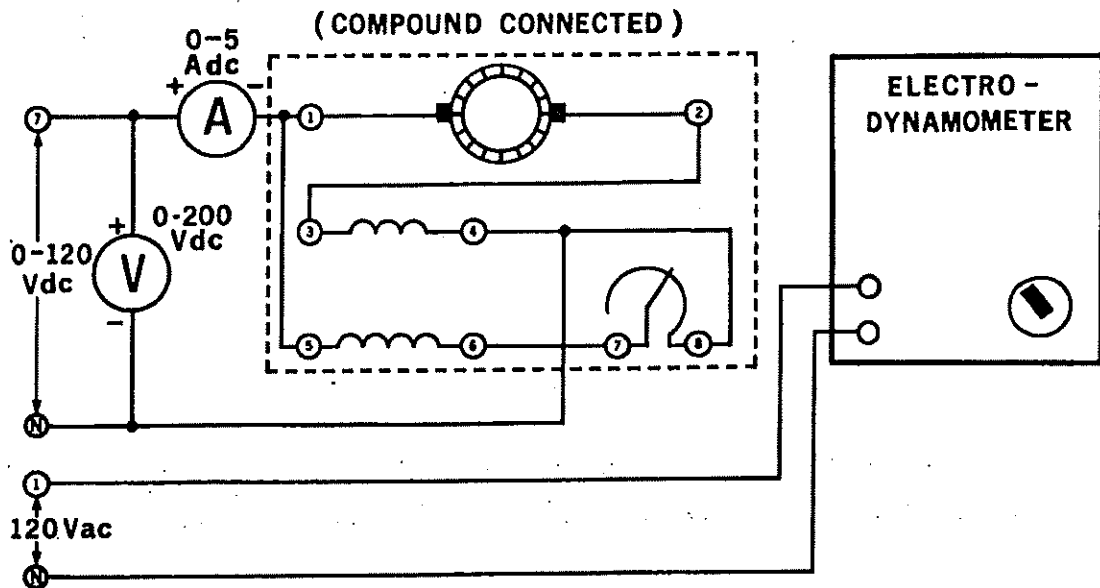

Figure 6-2.
- 4. Connect the shunt field, in series with the rheostat, to terminals 1 and 4 as shown in Figure 6-2.